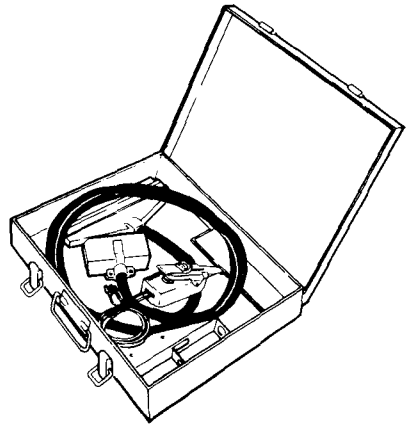

Fig. 149—4048SA-1 Kit.
23.06 4048SA-1 Kit Super Mini 25 Pair Probe Assembly — Interfaces with testers and rotary switches with Cinch Jones male plugs, the probe assembly is specially designed for accurate continuity testing and tagging of all Super Mini Modules. See Figure 149.